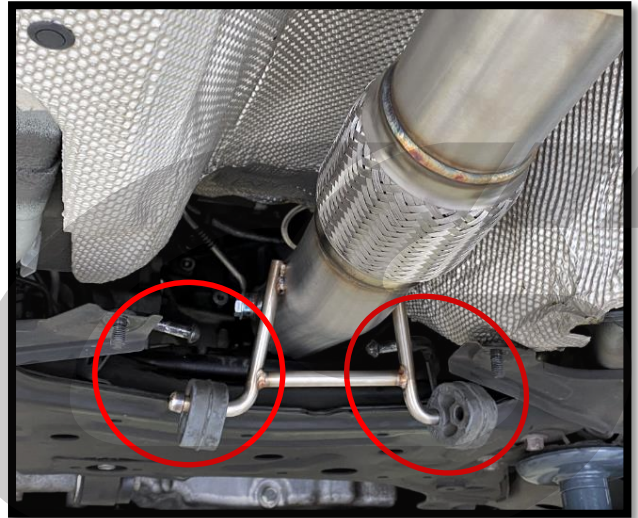

Figure 5c
- d) Lift the CS downpipe into position and install it on the exhaust hangers. Shown disconnected and circled in red in Figure 5c.